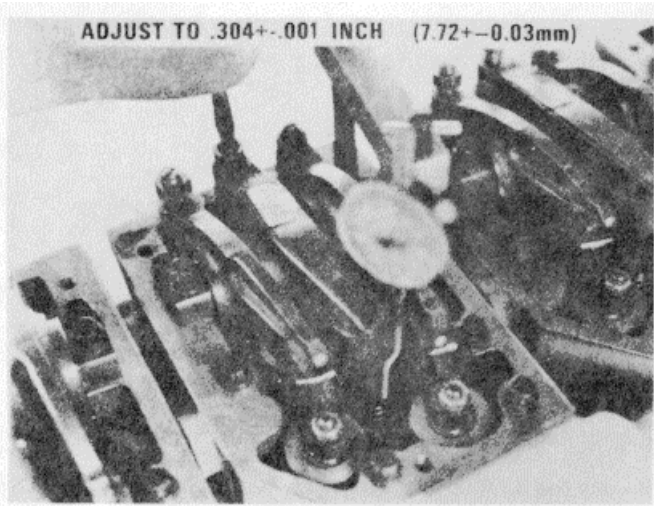

Figure 16N-66. Adjust the Injector Plunger Travel
4. Allow the plunger to rise. Then go to the bottom again to check the zero (0) dial indicator setting.
5. Remove the rocker lever actuator and turn the adjusting screw until the adjustment value, Table 16N-8, is obtained on the dial indicator, Figure 16N-66.